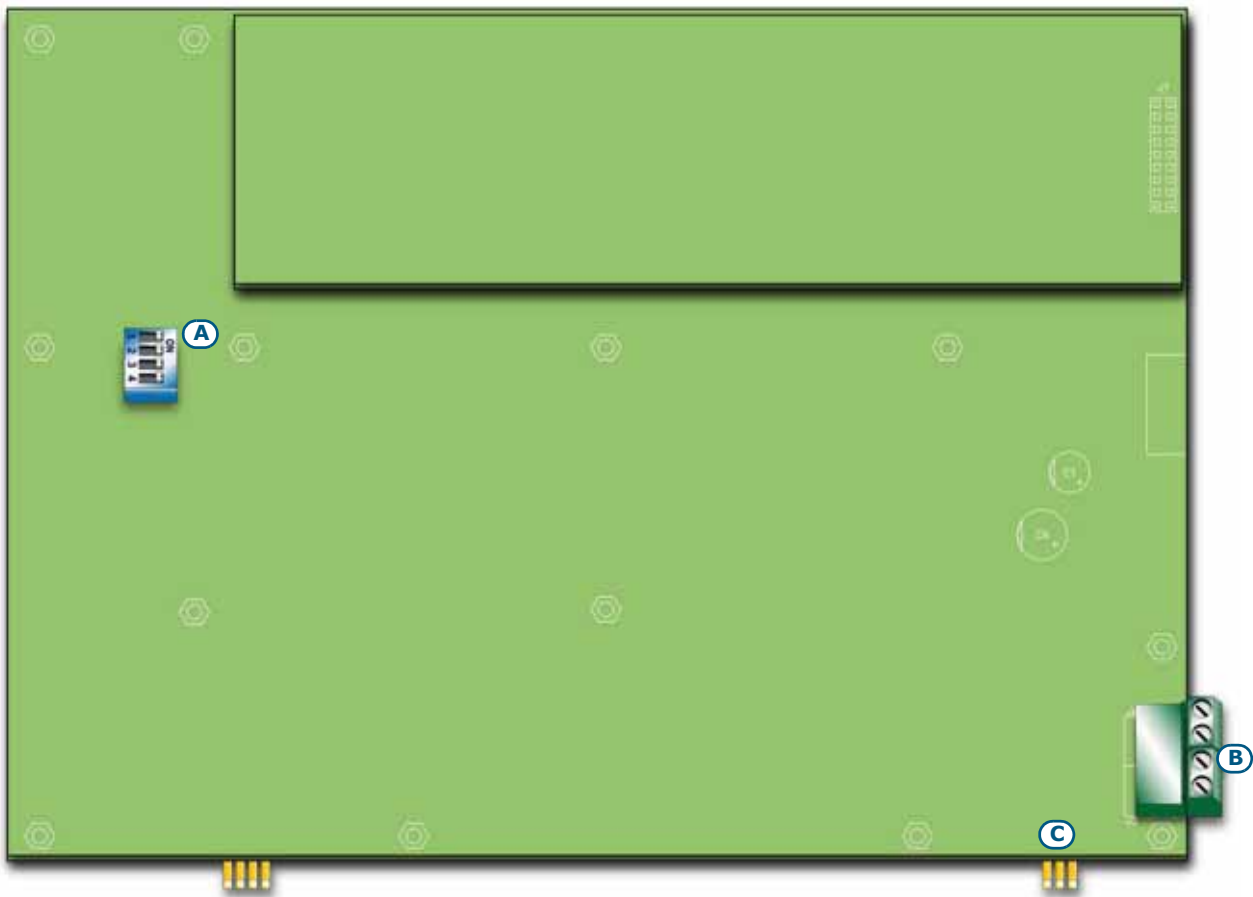

Figure 10 - The rear side of the repeater board
- 1. Each of the devices connected to the RS485 BUS must have a distinct address. When setting the addresses of SmartLevel devices, refer to the Power Station programming manual. When setting the addresses of repeaters, use the DIP switches (Figure 10 - The rear side of the repeater board, [A]).
2. Ensure that the EOL jumper (Figure 10 - The rear side of the repeater board, [C]) is set in the EOL position on the last device on the line ONLY.